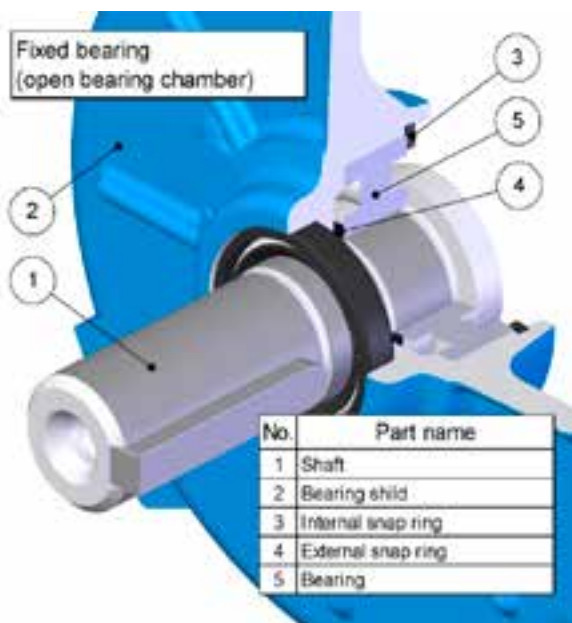

Fig. 10
- remove the spring clip in the bearing brackets (3) and rotor (4) (this also regards motors with a open bearing chamber – see fig. 10).